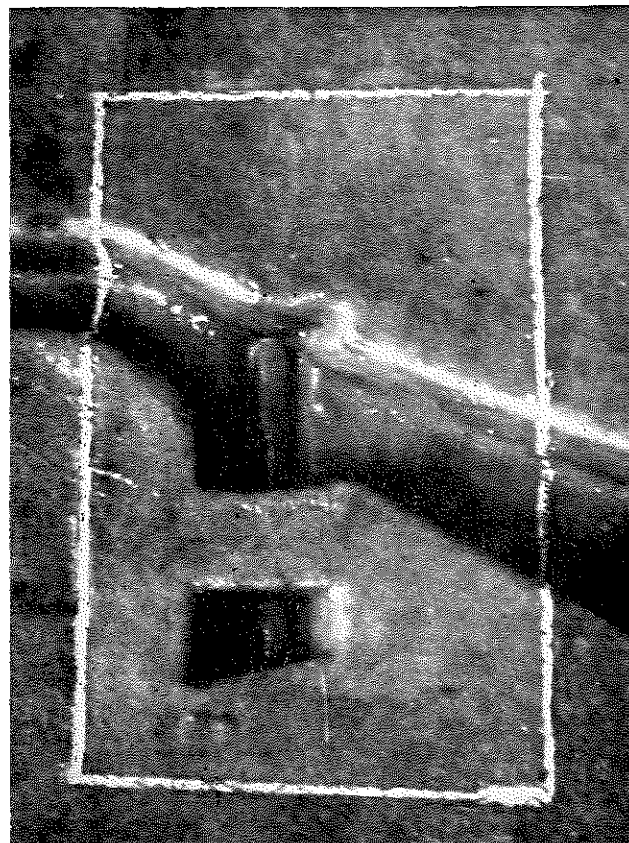

Fig. 21
- iii. Remove an area measuring approximately (see Fig. 21) the size and shape of the replacement laminate, cutting right through the double skin of the floor